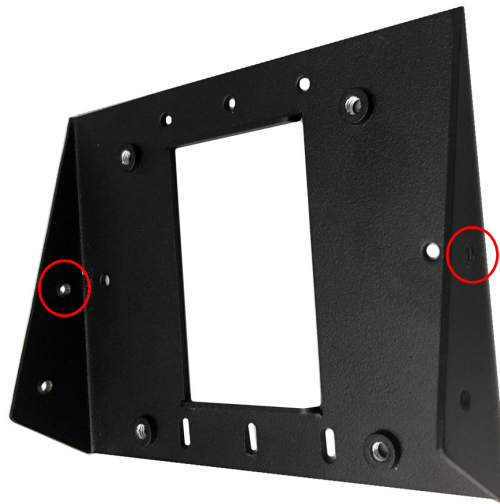

Figure 1-8 Mount Base Installation
- 5 Loosely install 6-32 X 1/2 Tamper Proof screws (2) in the upper screw holes shown in Figure 1-8. *The remaining Tamper Proof screws will be installed later.*